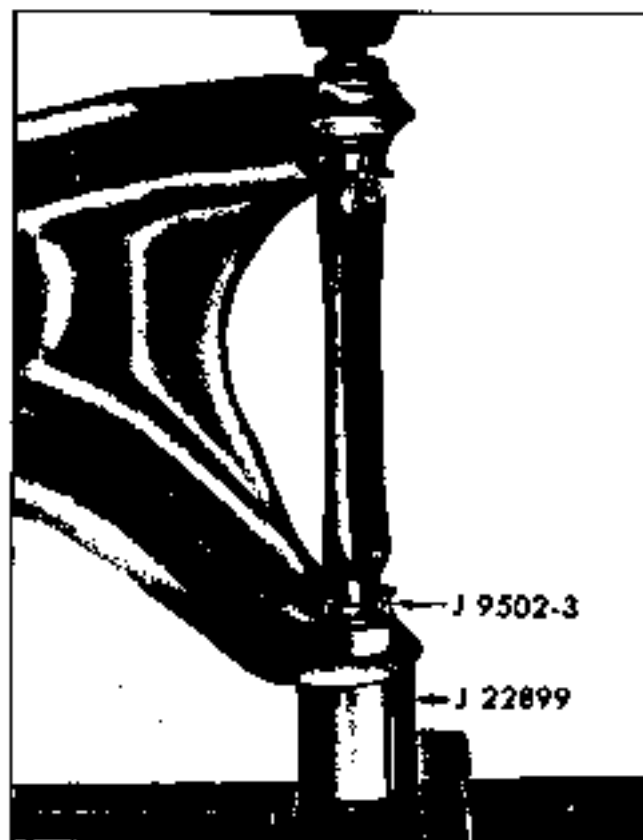

Fig. 3-16 Removing Upper Control Arm Bushing
2. Place control arm in an arbor press and position tools J 9502-3 and J 22899 as shown in Fig. 3-16.